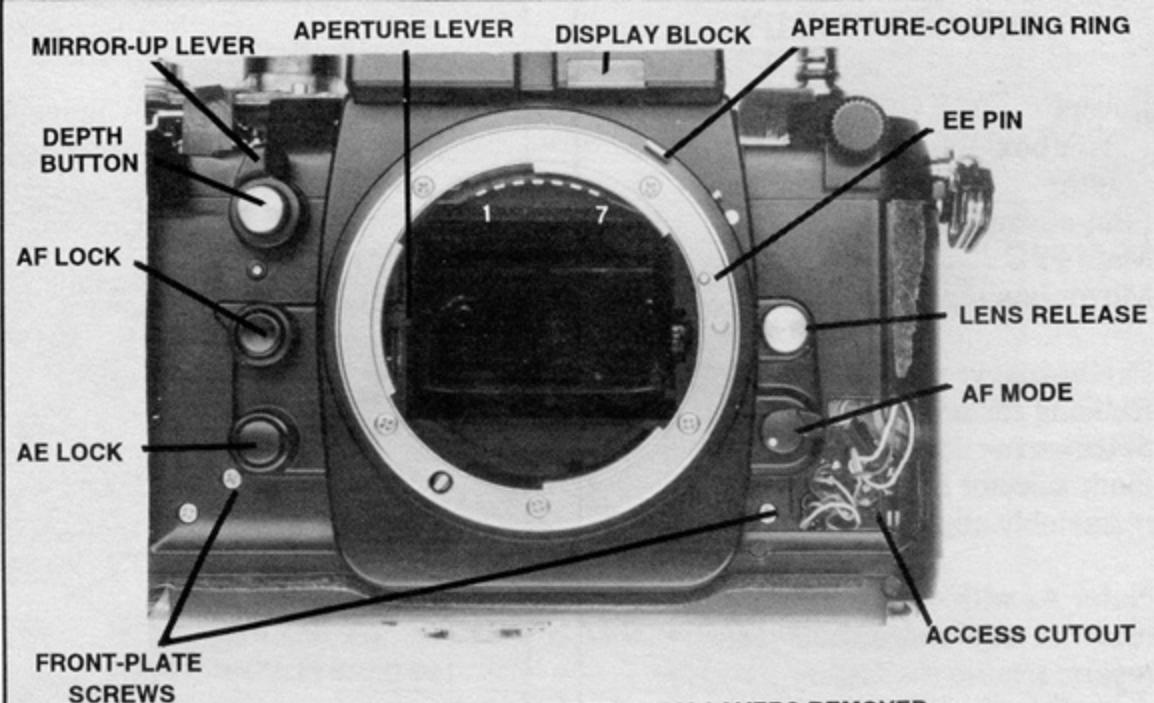

FIG. 10 FRONT VIEW, RUBBER BODY COVERS REMOVED
V-REF. 3.3V supplied by the main FPC to the fo and f-fo resistors, the SC dial, the shutter-speed dial, and the exposure-completion dial with the prerelease switch closed and during the 16-second timer. Check at the purple FRE wire through the front-plate cutout, rewind side of lens opening, Fig. 10.
4. FRE stop position. Adjust by turning the cord-hooking shaft—D in Fig. 15—until the f-fo pulley and the aperture-coupling ring, Fig. 10, come against their respective stops simultaneously.
Note: The brass cover plate for the access cutout, Fig. 10, normally sticks to the rewind-end rubber body cover.
18. remove 3 screws holding display block, top front of mirror box, Fig. 10
22. remove 2 white front-plate screws, front bottom, Fig. 10 (there are 2 white screws at the release side—remove only the screw that's closer to the AE-lock button)